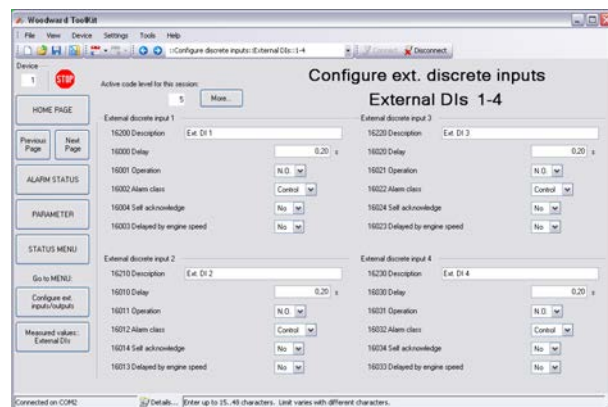

Fig. 240: Setup of external DIs
- Set up the external discrete inputs using the ToolKit screen shown in (Fig. 240).